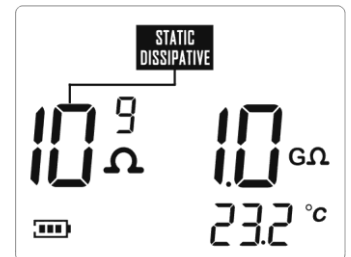

Figure 3
- b). The measured resistance being less than 103Ω will be displayed as 103Ω on LCD; c). For example: the resistance reading in Figure 3 is 109 Ω, 1.0GΩ, the measured material is anti-static material;